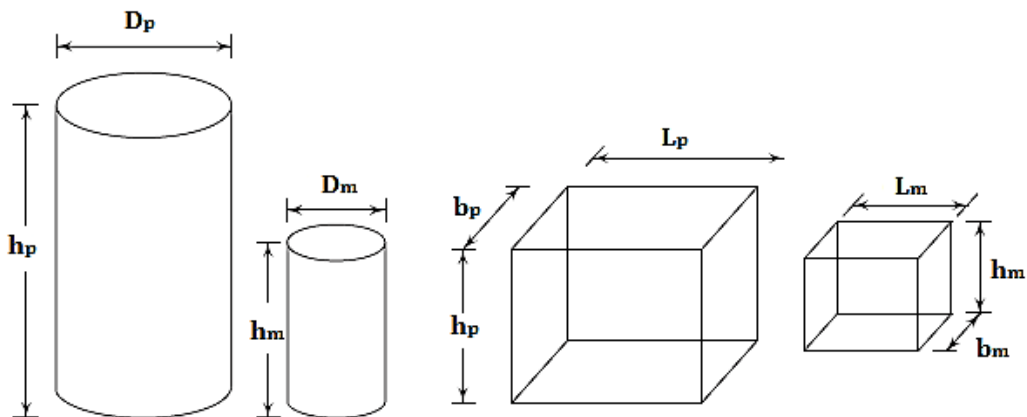

Fig.5.1 – Geometric Similarity
- ▶ Therefore, geometrically similar objects are similar in their shapes but differ in size as shown in Fig.5.1.